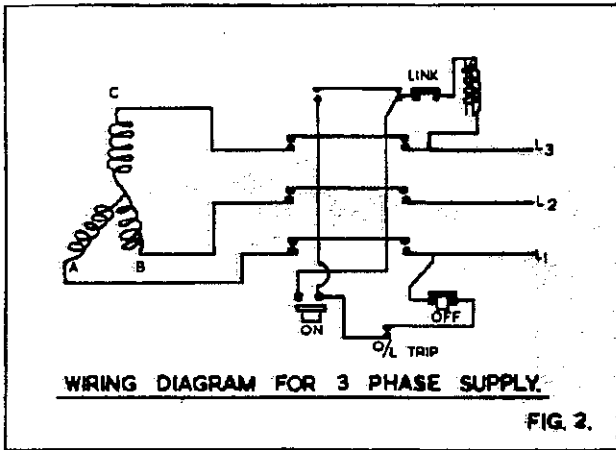
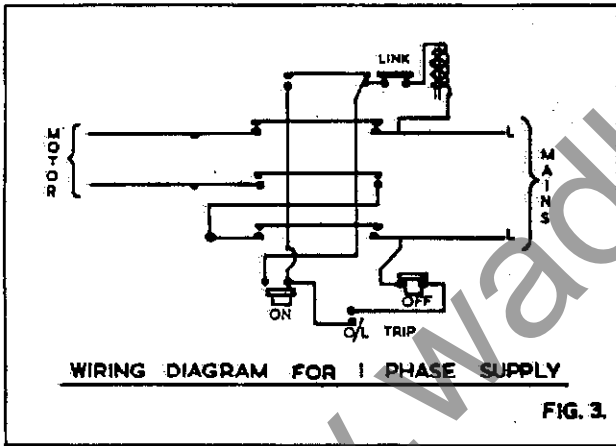

FIG. 2.
FIG. 3.
4. Connect the line leads to the appropriate terminals. See fig. 2 for 3 phase supply. See fig 3 for 1 phase supply.